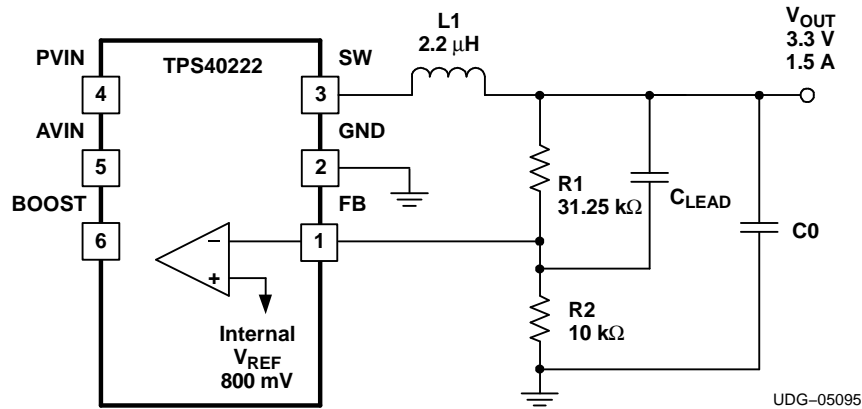

Figure 10. Output Stage
Since the loop compensation is internally fixed and cannot be changed, loop stability can only be controlled by the proper choice of output inductance and capacitance. Table 2 provides a shortcut guide to this selection and recommended capacitance to maintain a safe 50 degrees of phase margin for various inductors and output voltages. The table also shows the minimum capacitance for 50 degrees of phase margin at three temperatures, with the worst case for stability at -40°C. The granularity of the table is sufficient so the user can interpolate between values to find a specific operating condition. The table values assume a full load, which is also the worst case for phase compensation. As an example of using the table, consider a 2.5-V output converter with a 2.2-μH inductor. The table shows that a minimum of 15-μF of output capacitance is required to guarantee greater than 50 degree of phase margin at the worst case temperature of -40°C. With a lead capacitor (C_{LEAD}) added to the feedback as shown in Figure 10, this minimum capacitance increases to 26-μF and the closed-loop frequency increases by about 20%.
(1) See Figure 10.
(2) For V_{OUT} > 3.3 V use an inductor with a value greater than or equal to 2.2 μH.
In most applications, the user starts with a known output voltage and current load requirement as shown in Figure 10.
As shown in Figure 10, the trimmed reference voltage is internally connected to the error amplifier. Since the input bias current to this error amplifier is negligible. The feedback resistors R1 and R2 can be selected over a broad range limited by the low bias current into the error amplifier. With this restriction in mind, R2 was selected at 10 kΩ, so its current is 80 μA and large relative to the bias current of the error amplifier. The output voltage is then given by Equation 4.